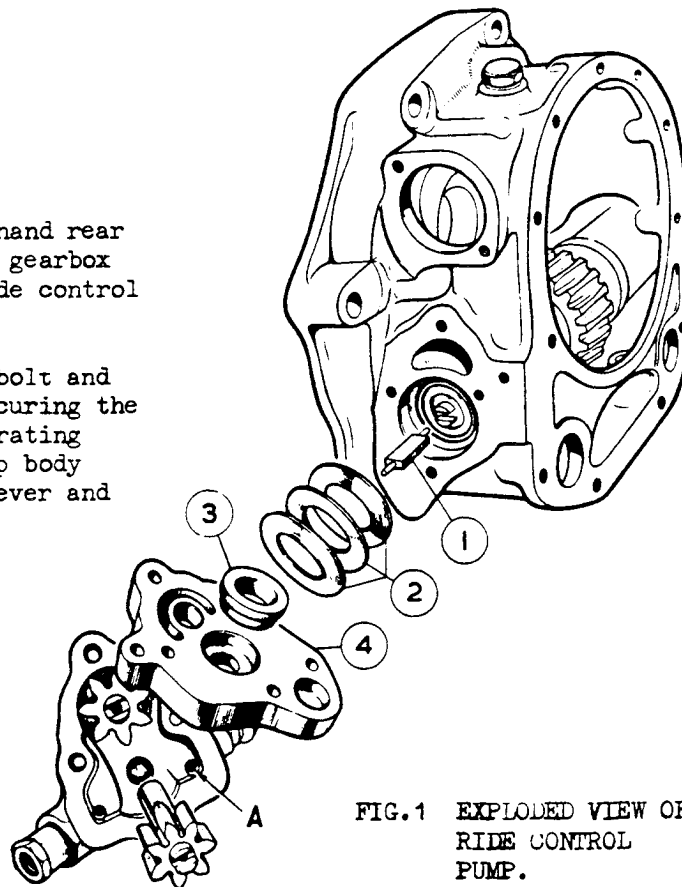

FIG. 1 EXPLODED VIEW OF
(iv) Remove the four screws retaining the pump to the gearbox rear extension and remove the pump. Collect the driving key (1 Fig.1).